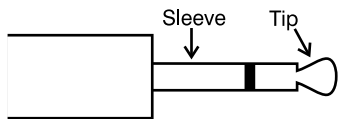

Figure 1. 1/8" mono jack
- 1 Remote Power Control** – The Remote Power Control is an 1/8" mono jack plug connector that provides remote turn-on of the Savoy (see Figure 1). The sleeve of the pin is the ground (-) and the tip is active (+).